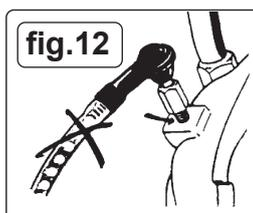

fig.12
- 9.7. Continue to bleed the system and top up the reservoir until there are no air bubbles visible in the clear tube (See fig.12).